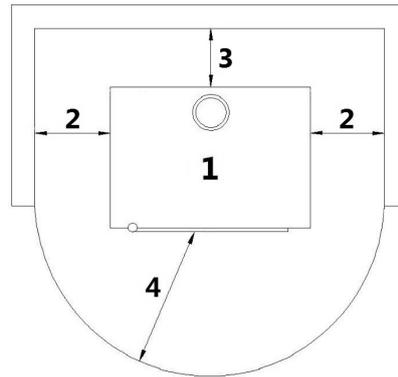

Fig. 19 - General installation
LEGEND	Fig. 19
- It is obligatory to install the stove away from walls and/or pieces of furniture, with a minimum air flow of 300 mm on the sides and 200 mm on the back, to enable an efficient appliance cooling and a good distribution of heat in the room (see **Fig. 19**).
- If the walls are made up of flammable materials, check the safety distances (see **Fig. 19**).